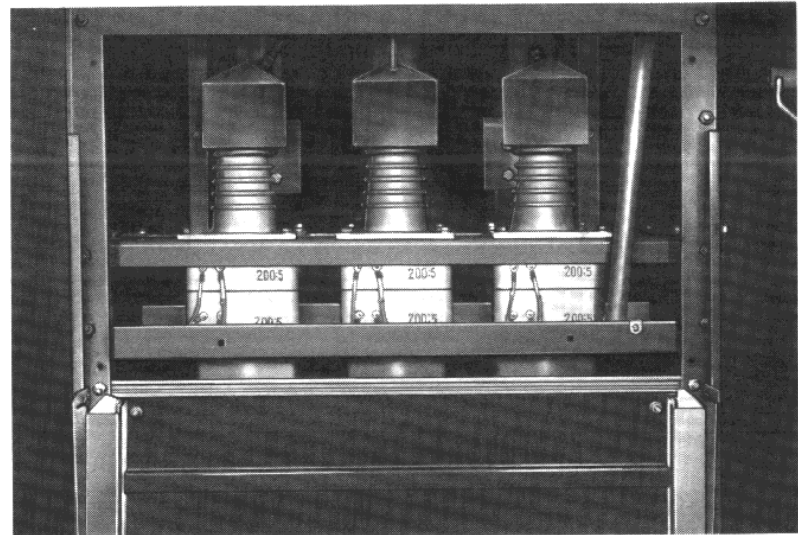

Figure 1-11.
1.2.7 Current Transformers (Figure 1-11)